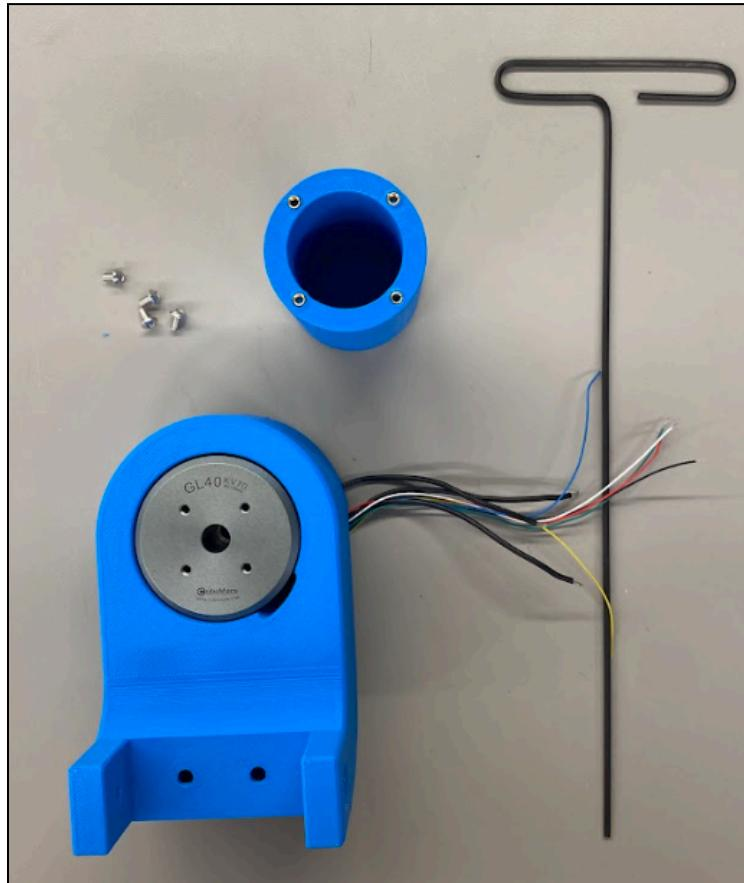

Figure 49: J5 Cylinder to J5 Motor
- Prepare the J5 Motor Holder (with J5 motor intact), 4 M3x5 mm screws, and a long M2.5 allen wrench. See Figure 49.